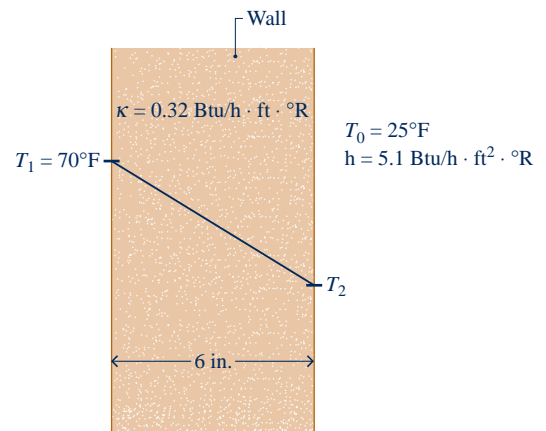

Fig. P2.44
2.44 As shown in Fig. P2.44, the 6-in.-thick exterior wall of a building has an average thermal conductivity of $0.32 \text{ Btu/h} \cdot \text{ft} \cdot ^\circ\text{R}$. At steady state, the temperature of the wall decreases linearly from $T_1 = 70^\circ\text{F}$ on the inner surface to T_2 on the outer surface. The outside ambient air temperature is $T_0 = 25^\circ\text{F}$ and the convective heat transfer coefficient is $5.1 \text{ Btu/h} \cdot \text{ft}^2 \cdot ^\circ\text{R}$. Determine (a) the temperature T_2 in $^\circ\text{F}$, and (b) the rate of heat transfer through the wall, in Btu/h per ft^2 of surface area.